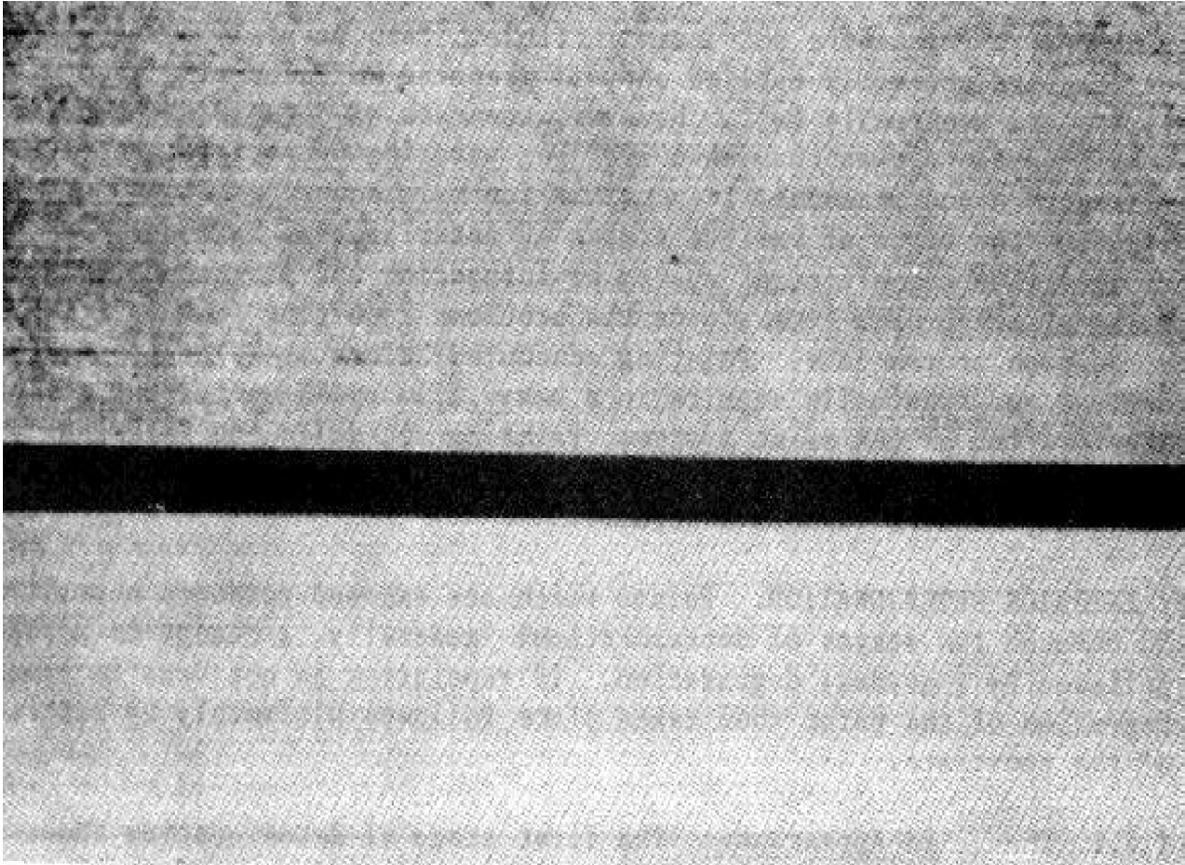

FIGURE 5-1
a. Soiling: Exterior coatings normally gather dirt and become increasingly soiled. Among the most common sources of soil are rain-washed dirt from roofs, gutters or overhangs, smoky air, pollen, salt residues, and sap drippings from trees. Soiling increases as the paint becomes flat and somewhat rough; this is prevalent under overhangs where it is protected from washdown by rain. Dirt pickup is greater with softer paints such as linseed oil paints and is more visible on white or light colored paints. Soiling is less evident on paints which chalk rapidly since the dirt is readily washed off with the chalk during rain storms (See Figure 5-1.)